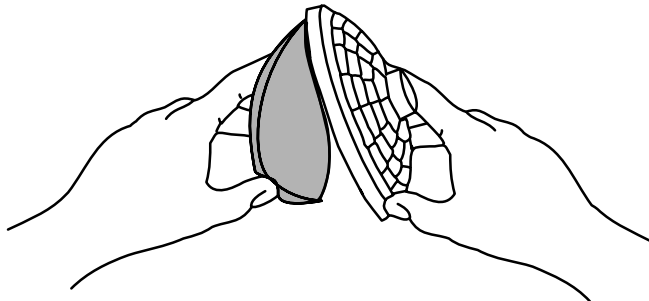

FIG. 28
- a. Pull the top piece of the dome filter off and remove the foam media (Figure 28). Shake it out, rinse it and let it air dry thoroughly.